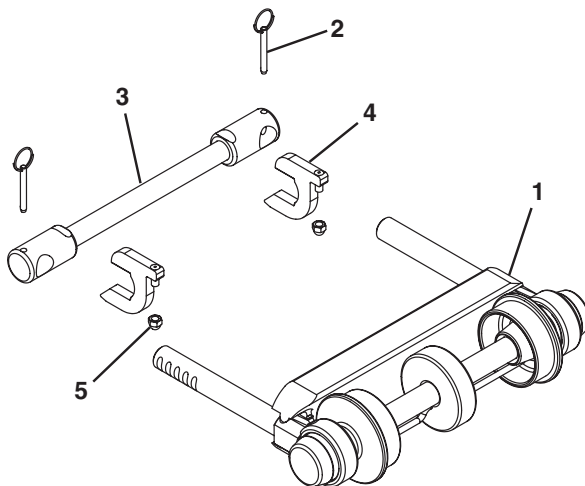

Figure 17
Typical Tip Up Tail Components (Figure 17)
Adjust the acorn nuts (Figure 17, item 5) on the key stops (Figure 17, item 4) to raise or lower the tip up tail assembly.